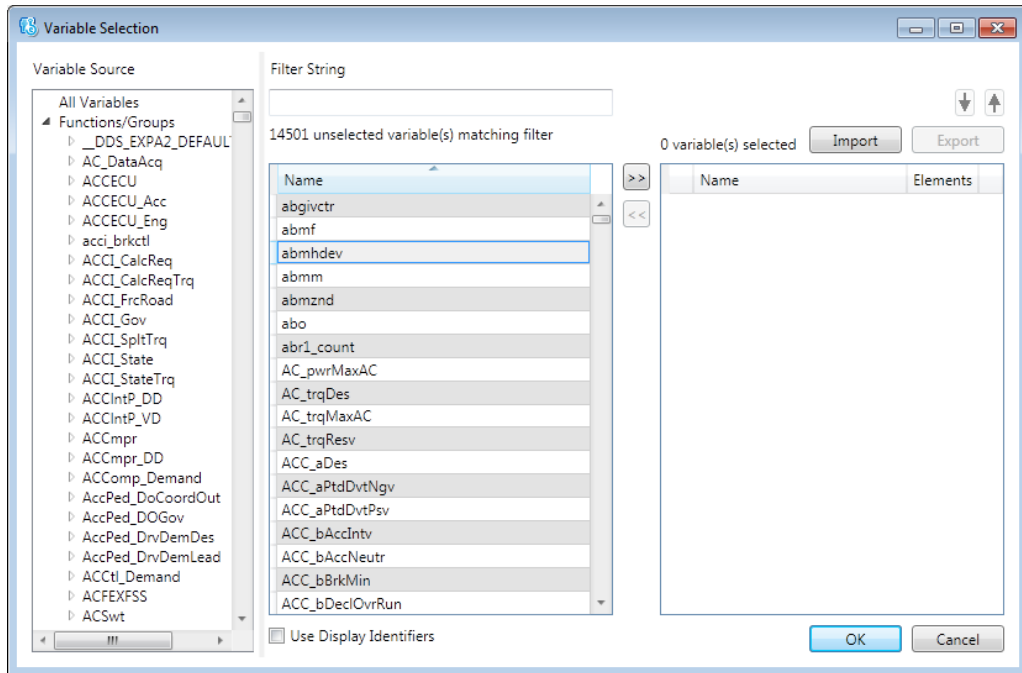

Figure 3.16: EHOOKS variable selection dialog window (see the EHOOKS-DEV user guide for further information)
3. To open the EHOOKS variable selection dialog window (see Figure 3.16 on the next page), do one of the following: